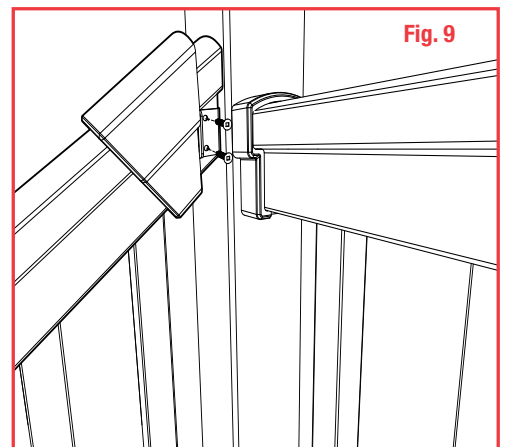

Fig. 9
- 14 Secure the top rail in place by installing two of the 1" screws on both sides of the metal brackets. (Fig. 9) Snap the bracket covers over the metal brackets.